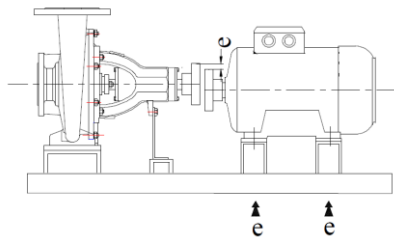
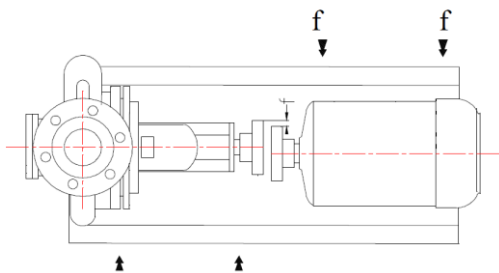

Figure 6: Parallel Axis Misalignment in Vertical Plane and Its Correction
Figure 8: Parallel Axis Misalignment in Horizontal Plane and Its Correction
2.Angular Misalignment (Figure 6-Figure 8)